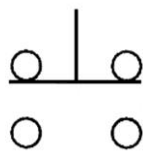

Figure 6-4 Pushbutton symbol for question 7.
7. The pushbutton symbol shown in Figure 6-4 would be classified as a(n) 7. _____